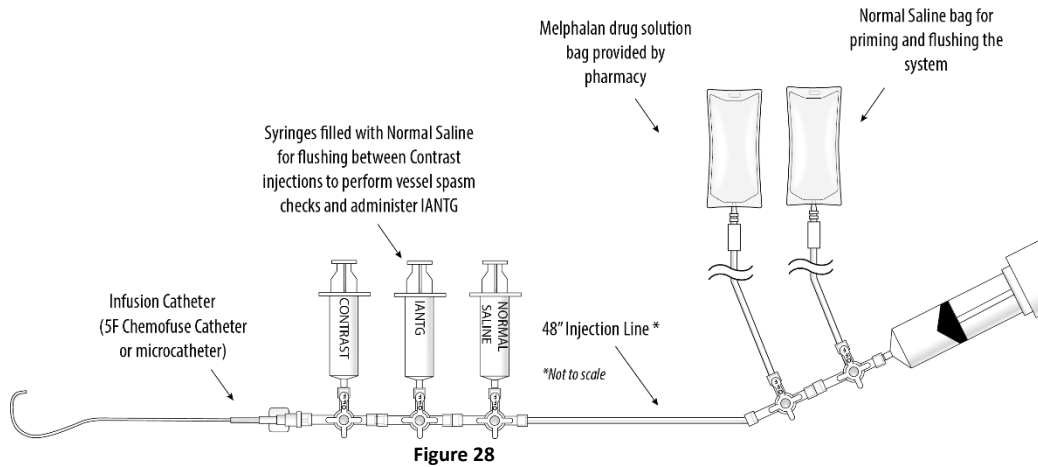

Figure 28
- (a) When the hemofiltration circuit is running satisfactorily and the patient is hemodynamic stable, flush the hepatic arterial infusion line with normal saline to avoid directly mixing heparin with chemotherapeutic agent (melphalan hydrochloride). Connect drug infusion line to Hepatic Artery Infusion catheter (5F Chemofuse® Catheter or microcatheter), as shown in Figure 28 to complete the drug delivery circuit.